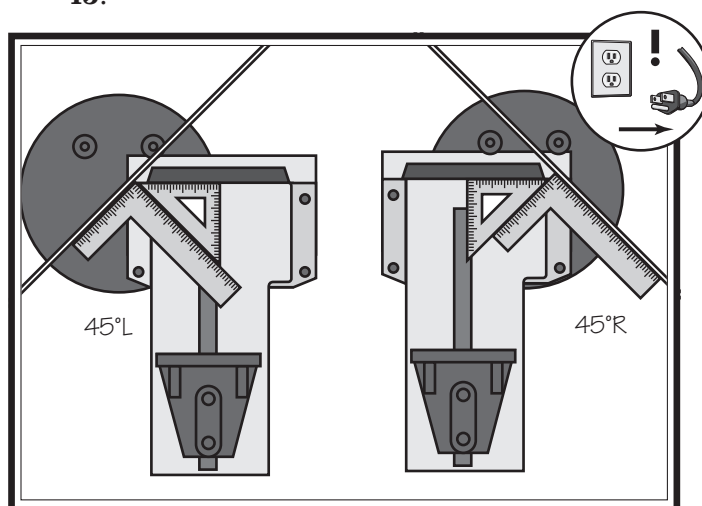

Figure 45. 45°L and 45°R stop adjustment.
7. Repeat this procedure for the 45°R and 45°L stops using a square and a 45° triangle (or an adjustable square), as shown in Figure 45.